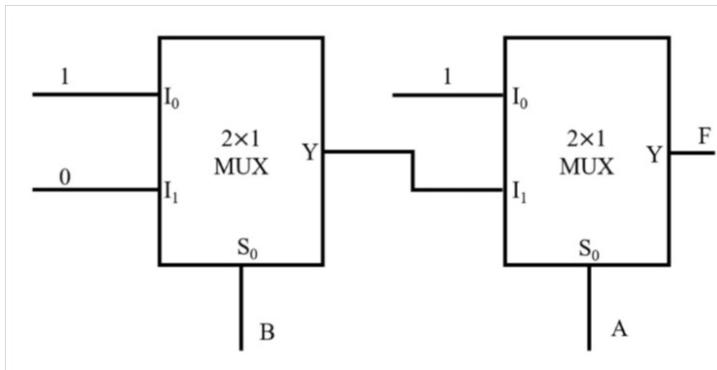

Fig. 4.18
35. The output F of the digital circuit shown in Fig. 4.18 can be written in the form(s) _____